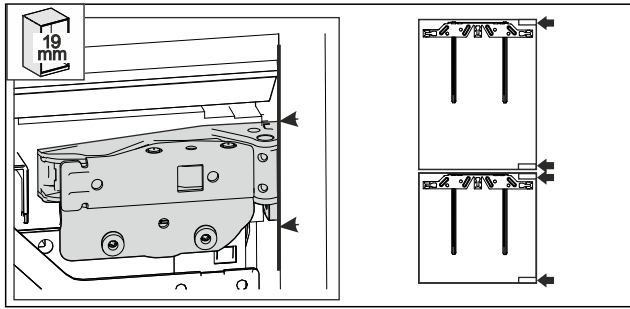

Fig. 56
- ▶ 19 mm thick cabinet side panel: the front edge of the hinges is flush with the front of the cabinet side panel. Fig. 56 ()